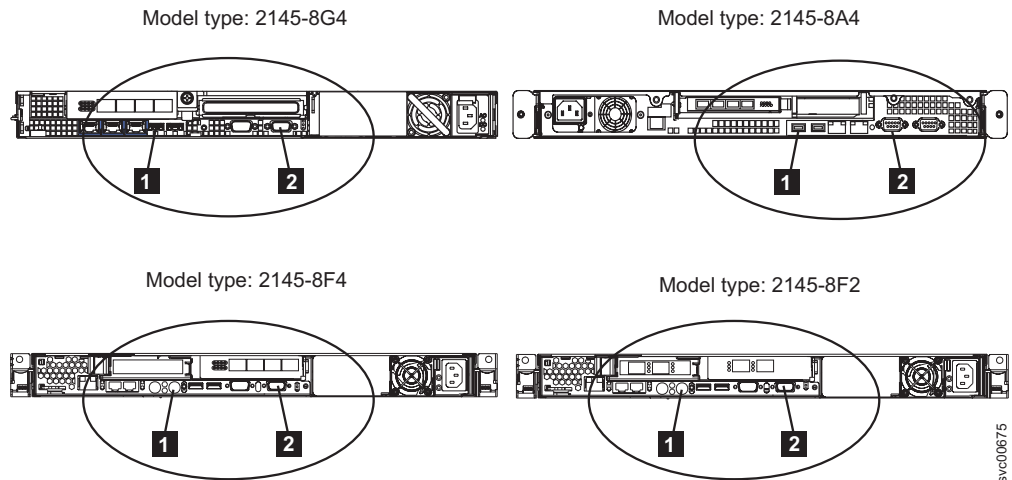
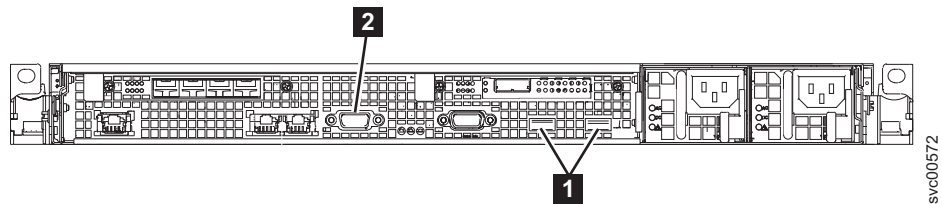
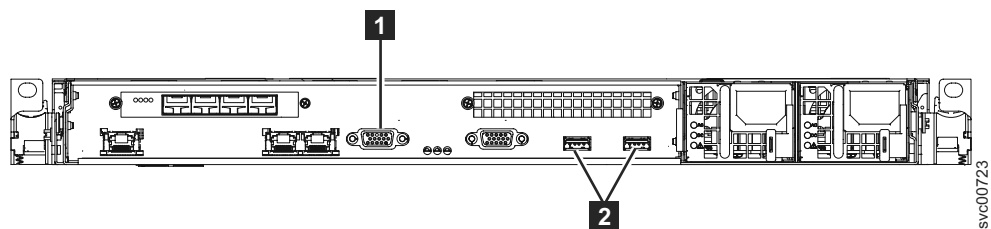

Figure 105. Keyboard and monitor ports on the SAN Volume Controller models 2145-8G4, 2145-8A4, 2145-8F4 and 2145-8F2
Figure 106. Keyboard and monitor ports on the SAN Volume Controller 2145-CF8
Figure 107. Keyboard and monitor ports on the SAN Volume Controller 2145-CG8
- b. Connect the keyboard **1** and the display **2**. Figure 105 on page 305 shows the location of the keyboard and monitor ports. Figure 106 on page 305 shows the location of the keyboard and monitor ports on the 2145-CF8. Figure 107 on page 305 shows the location of the keyboard and monitor ports on the 2145-CG8.